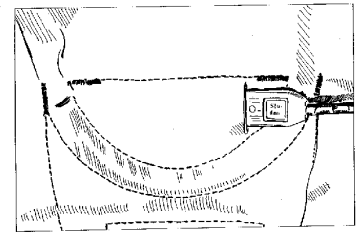
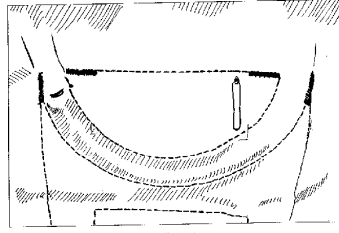

Figure 5
Figure 4
- 2.2 Cut the slit in the appropriate location using the hot knife. Fig. 4. Make sure you do not exceed the distance as marked by the dots. Check the fit of the Cypres control unit through the slit. Fig. 5.